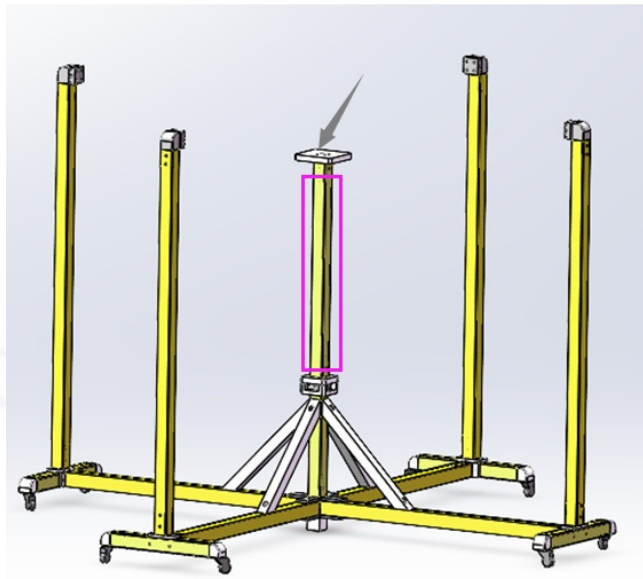
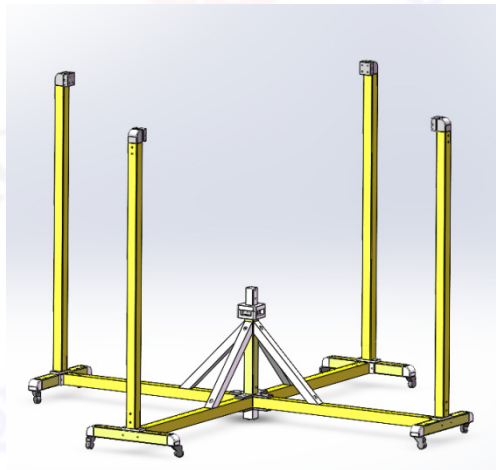

Fig 3 Testing Platform
Fig 4 Testing Platform Long poles are connected by sockets and pins
3. The pink circled part in Fig 3 is retractable up and down. At the same time, there are M16 screw holes shown by the gray arrow in Fig 3 to facilitate expansion of the Testing Platform with a larger Platform.
4. The retractable Testing Platform circled in pink in Fig 3 can be detached as shown in Fig 4, making it easy to move in and use the Calibrator Set.